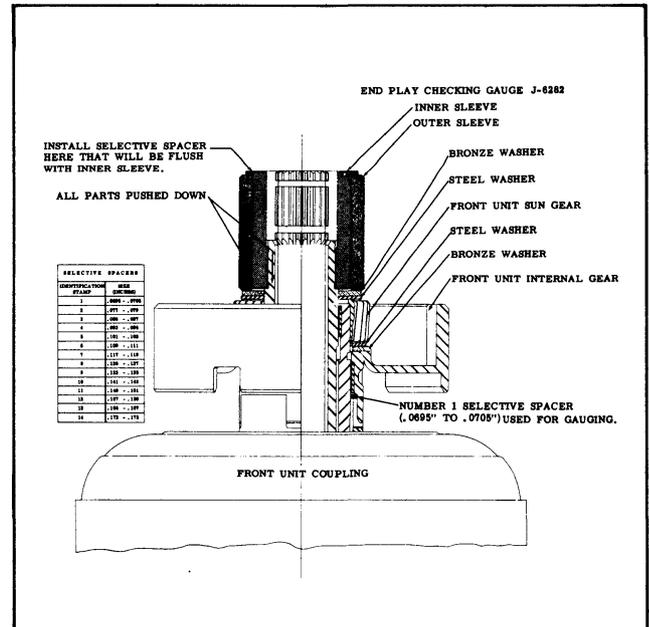

Fig. 3-149 Front Unit End Play
4. Place a No. 1 selective spacer (.0695" to .0705") on driven torus shaft. (See Fig. 3-149) This will be used as a gauge spacer.